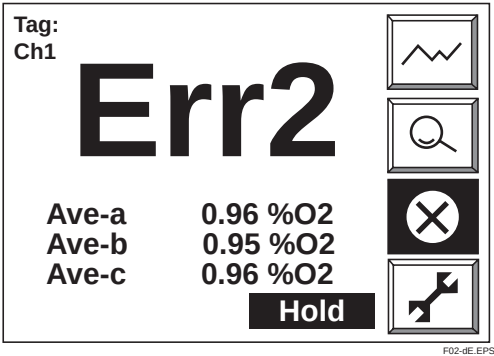

Figure 12.2 Error Displays on Single-channel Display
- 3) On the single-channel display, a large error code is indicated in the oxygen concentration data area and an error icon flashes in the switch indication area if the display shows the relevant channel (Figure 12.2). If not, only a flashing error icon is indicated.